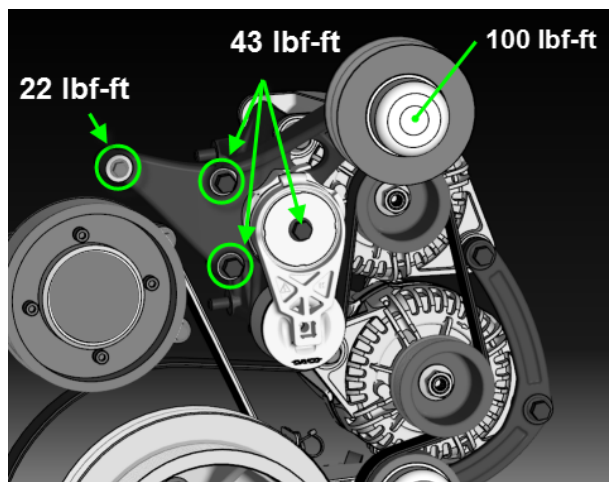

FIGURE 31
20. Reinstall the A/C compressor idler pulley bracket assembly (FIGURE 31). Apply Loctite 243 on threads. Reinstall the A/C compressor belts.